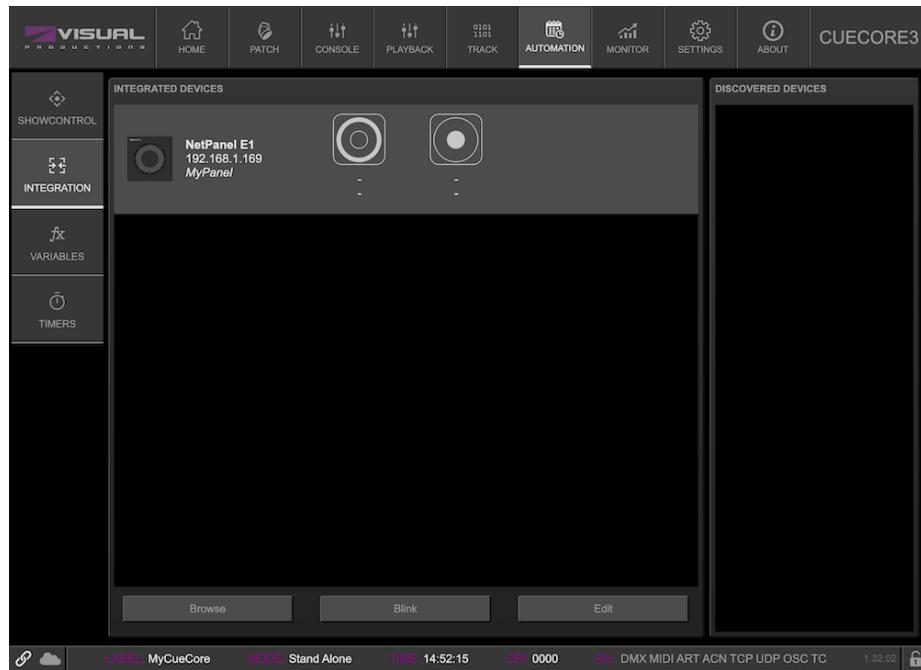

Figure 2: Setting up in CueCore3
2. In the web interface of the CueCore3, go to the *Automation* page. Then choose the *Integration* tab on the left. See fig. 2.